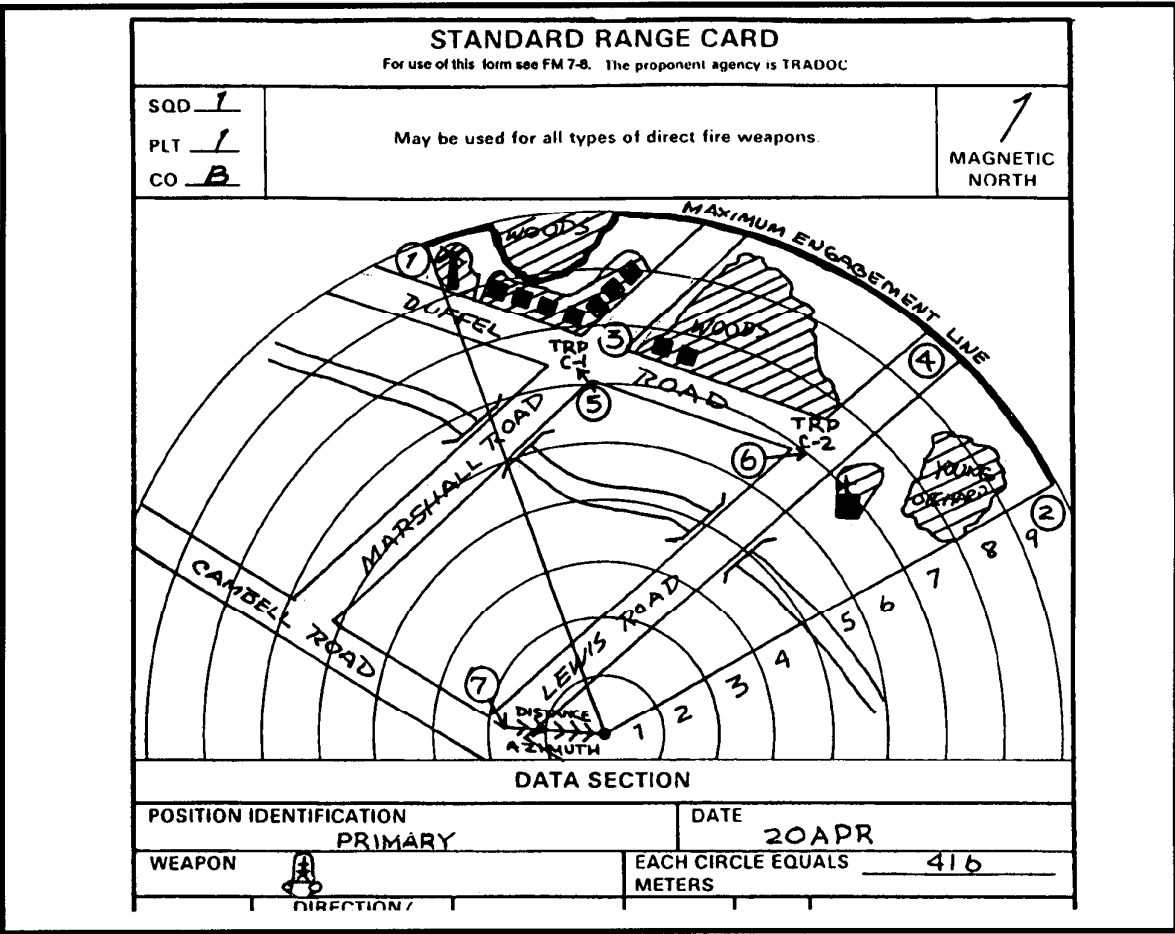

Figure E-10. Determining range interval on range card.
(4) *Each circle equals \_\_\_\_\_ meters.* Write the distance between the circles in meters. To determine the distance, count the intervals from the weapon to the maximum engagement line (as determined by the squad leader). Divide the amount of intervals into the range of the maximum engagement line. This will give the distance between circles (Figure E-10, page E-8).